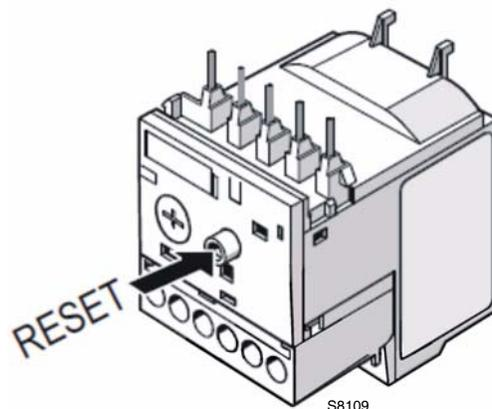

Fig. 24
- To reset, in the case of an intervention of the thermal relay, press the button "RESET" (Fig. 24).